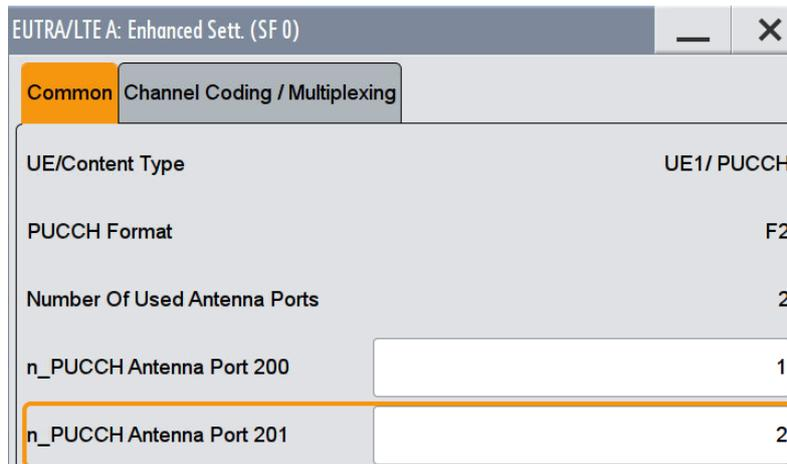

Fig. 3-168: Set the parameters n_PUCCH to 1 and 2
11. Set the resource index **n_PUCCH** to 1 and 2 (Fig. 3-168).